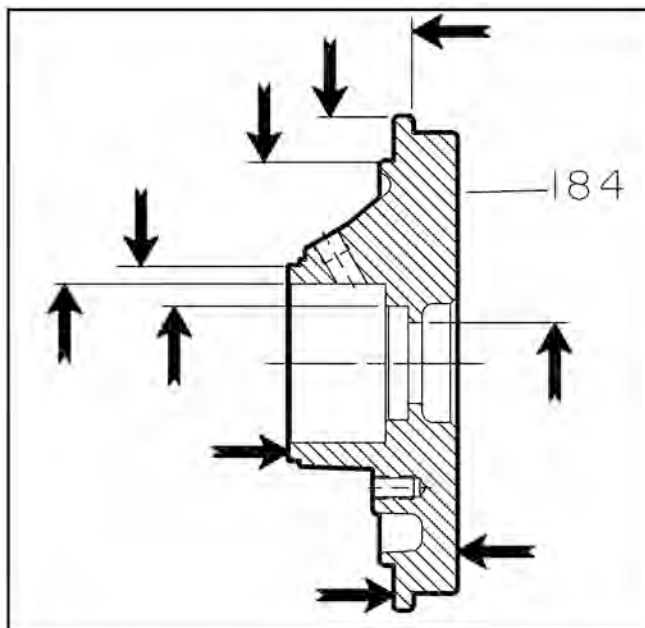

Figure 46:
1. Make sure seal chamber/stuffing box cover (184) gasket surface is clean at adapter face (Figs. 46, 47, 48).